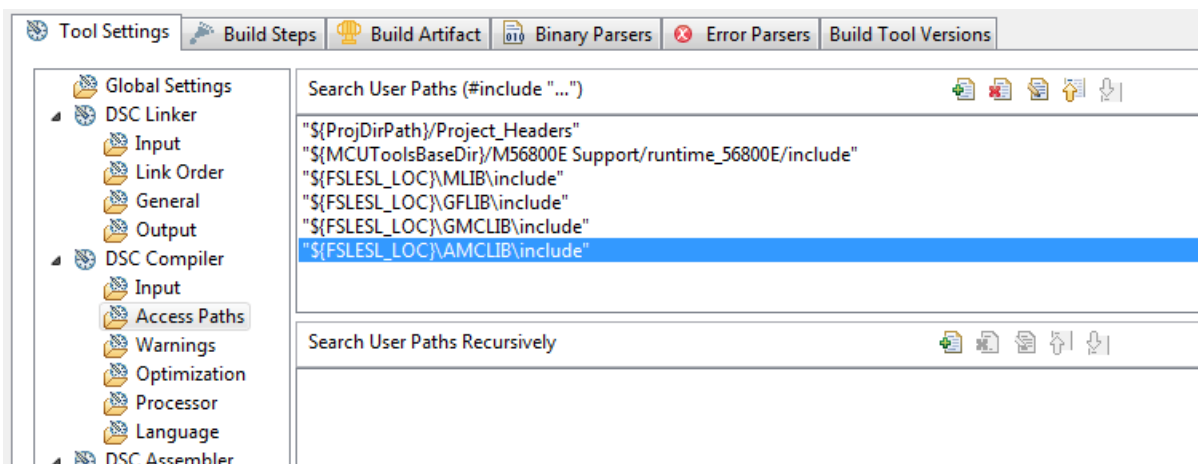

Figure 1-13. Compiler setting
29. Now you will see the paths added in the box. See Figure 1-13. Click OK.